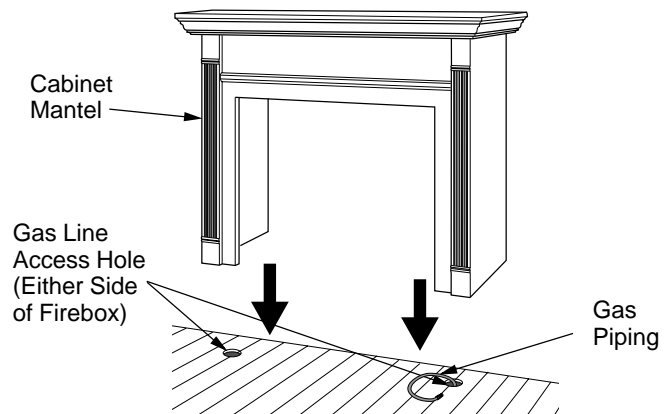

Figure 8 - Installing Cabinet Mantel (Mantel May Vary From Illustration)
2. Install gas piping to firebox location. See *Installing Gas Line*, page 11. You may have to cut an access hole in the floor or wall to run gas line to firebox. Make sure to locate access hole so cabinet mantel will cover it when installed (see Figure 8).